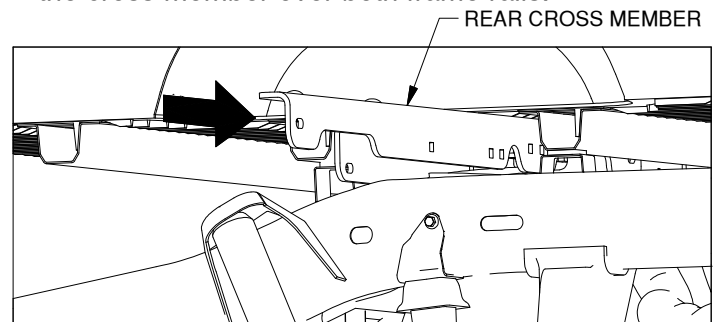

Figure C6: View looking into driver side wheel well.
5. **Place the rear cross member.** Insert the cross member between the bed and frame and pass it to the other side of the truck, as shown in Figure C6. Center the cross member over both frame rails.